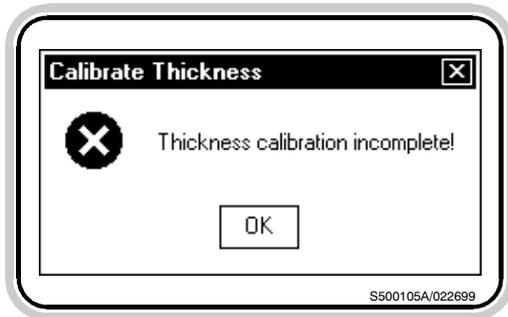

Figure 12.5- Thickness calibration was not completed
0.375 inches. Select the **OK** button in the message box, then another message box will appear stating the calibration was not completed successfully (figure 12.5). Select the **OK** button in the message box, and the tablet indexer will push the calibration gauge out into the waste bin on the right of the machine. Refer to the appendix “Resolving Calibration Errors” of this manual for information on why an unsuccessful calibration may have occurred, and possible corrective actions to take. An incomplete thickness calibration will not change the Calibration Date for the thickness encoder.